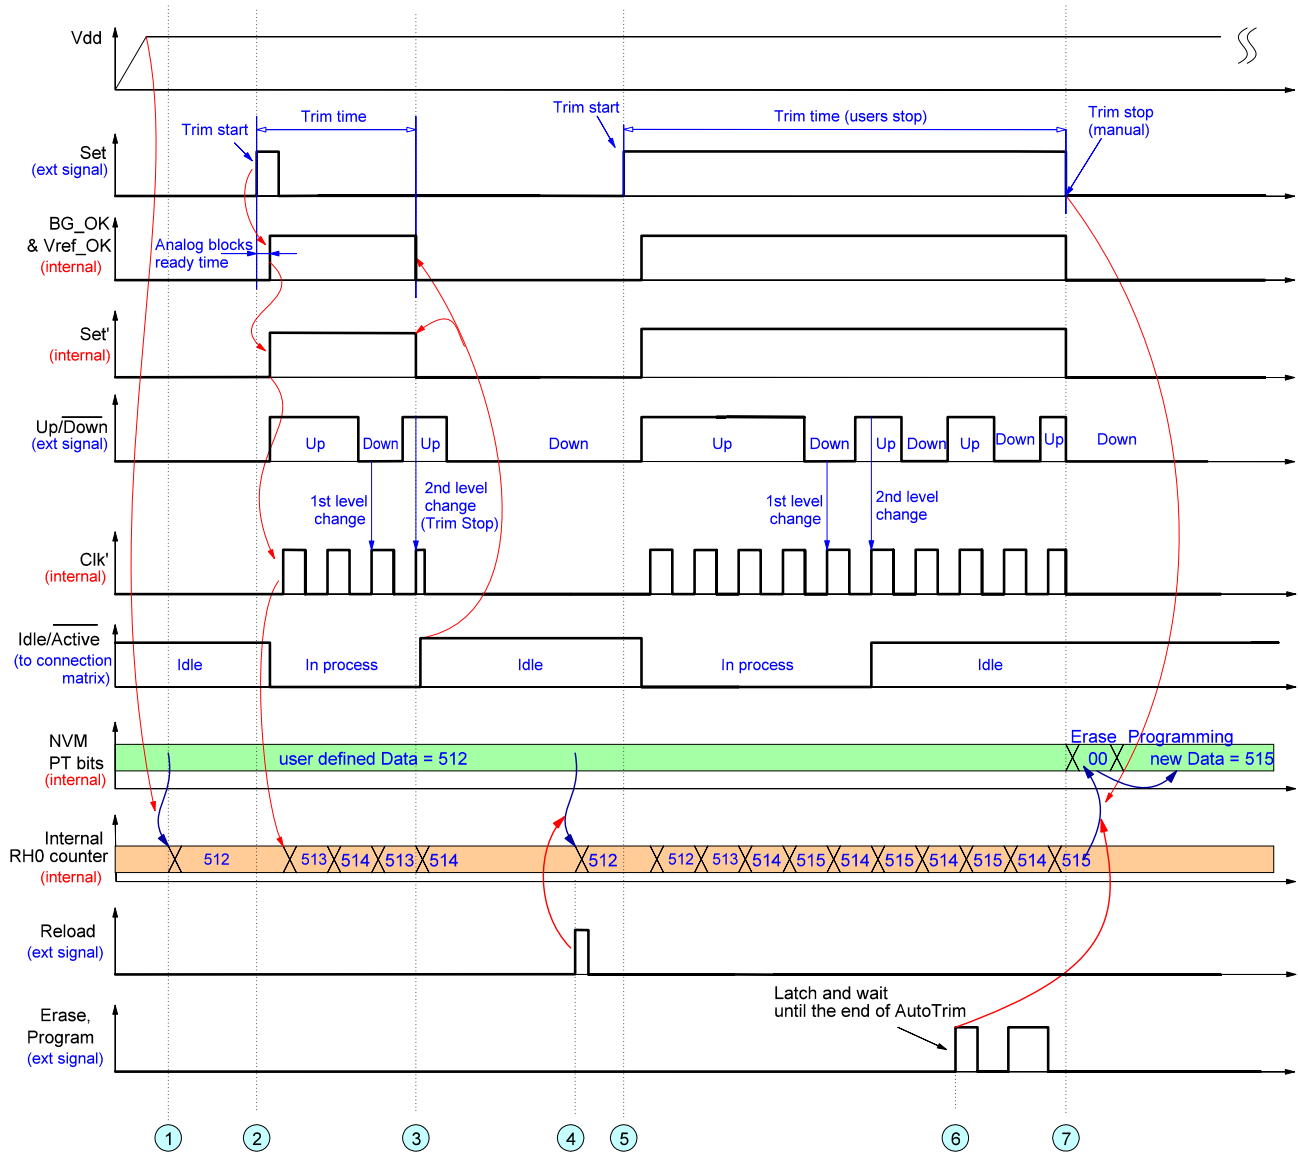
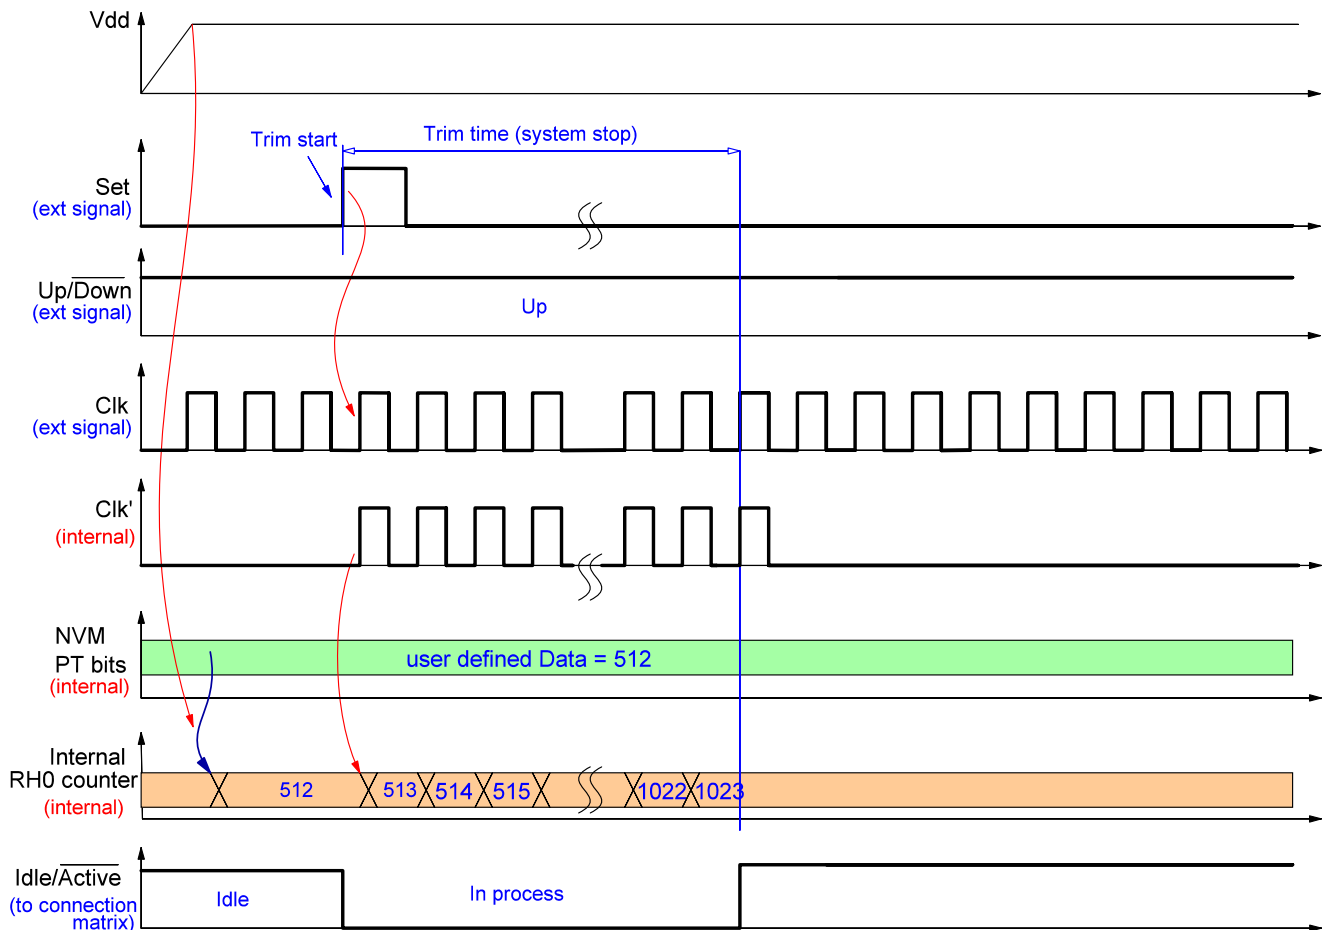
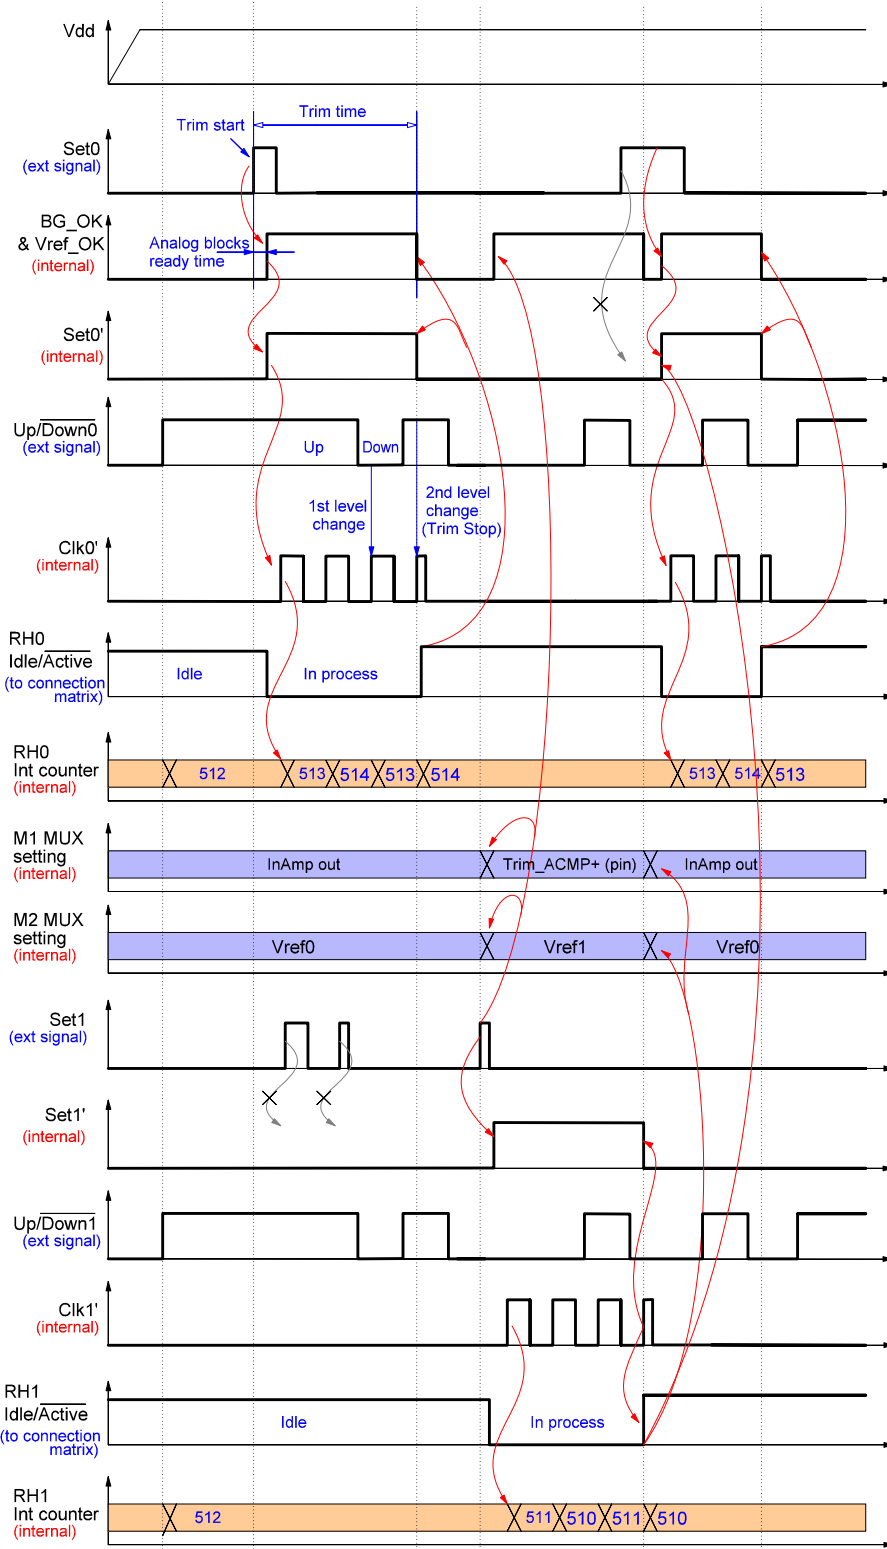

Figure 175: Example of Auto-Trim Process for a Single Rheostat
Figure 176: Example of Auto-Trim Process with External Clock Signal
Figure 177: Example of Auto-Trim Process for Two Rheostats
- 1) 2nd time change on Up/Down input at the moment of rising edge on Clock input (see Figure 175).
- 3) the value of rheostat reaches its minimum (0).
The detailed flow of Auto-Trim process is shown in Figure 175, Figure 176, Figure 177.
The key events of the Auto-Trim process are the following (see Figure 175):
If the Set input signal is shorter than the trim time, the Auto-Trim process stops automatically after a stop condition occurs (event 3, Figure 175). However, if a stop condition comes and High logic level holds on the Set input, the rheostat value will be switched near the set point until a Low level on the Set input occurs (event 7, Figure 175). Note that the Idle/Active signal changes its level to High (Auto-Trim is done) even if the user keeps a High logic level at the Set input.
Figure 176 shows a similar Auto-Trim example. The only difference is that the user defined clock source as “External clock” from connection matrix. The clock pulses are present at the Clock input all the time, but have effect (rheostat value changes) during Trim time only. The stop condition for this case is the following: PT block reaches boundary value of 1023 and the logic level at change Set input is Low.
Figure 177 shows Auto-Trim process flow for two rheostats.